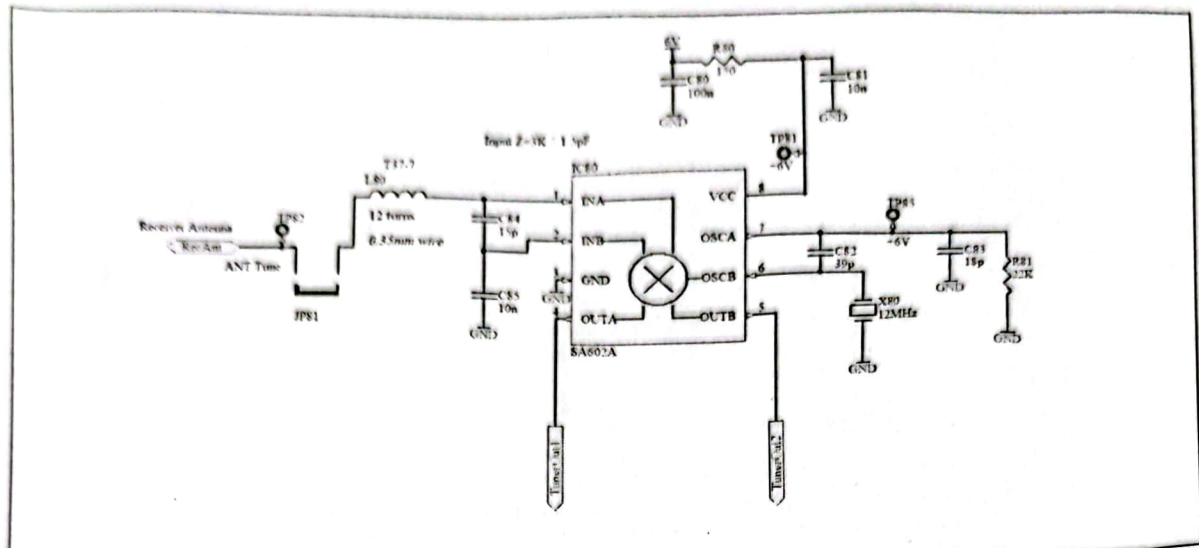

Figure 4: Receiver mixer schematic diagram.
1. Install and solder IC80, the receiver mixer. Make sure that pin 1 gets installed into the rectangular shaped pad on the PCB. Note that all other pads are oval shaped. This mixer converts 27.000 MHz signal to 15.000 MHz. The pin OSCB of the mixer chip has a negative input resistance at high frequencies, if small capacitors (C82 and C83) are connected at pins OSCB and OSCE. When a quartz crystal resonator at 12.000 MHz is connected to this pin as shown in Fig. 4, an oscillator at 12.000 MHz is obtained.